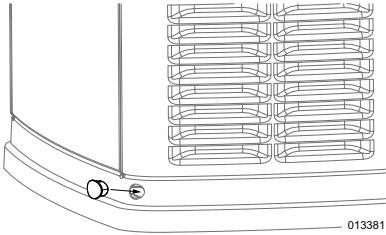

Figure 4-1. Installing Base Plugs
3. See **Figure 4-1**. Install base plugs into generator base.